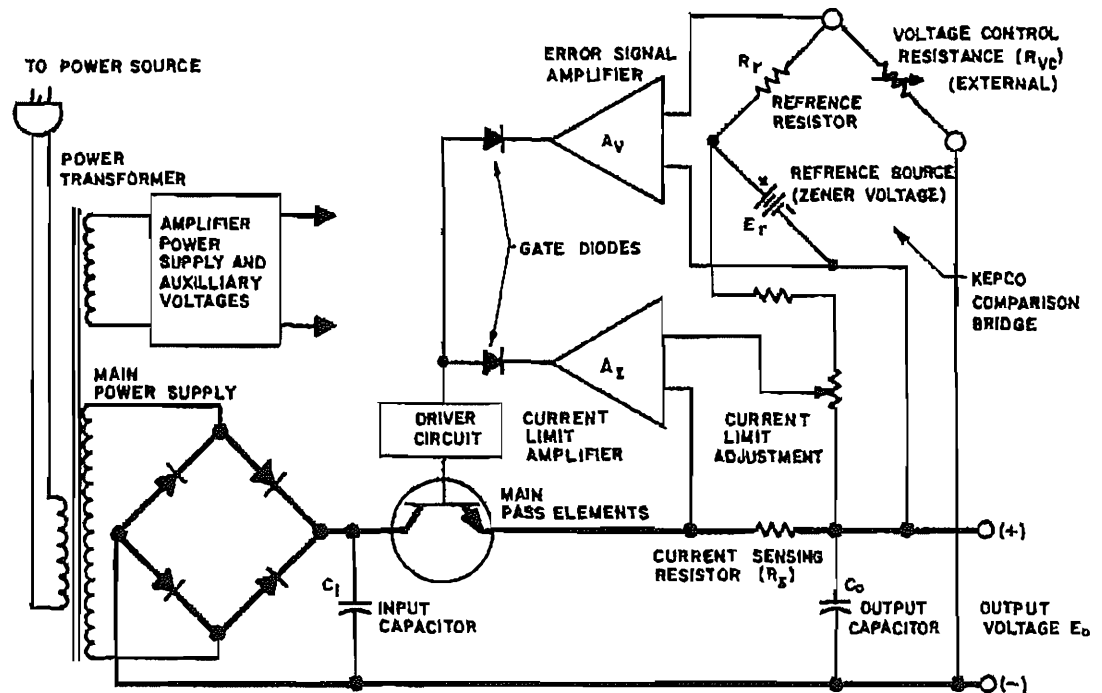

FIG. 4-1 SIMPLIFIED DIAGRAM, PAT POWER SUPPLIES.
(References in CAPITAL LETTERS refer to the nomenclature used in FIG. 4-1.)
4-1 SIMPLIFIED DIAGRAM DISCUSSION. (Refer to FIG. 4-1.)
- a) A-C INPUT CIRCUIT. A-C input power is introduced through rear barrier-strip TB 1, terminals (1) and (2). Terminal (3) is connected to the chassis and should always be returned to a-c ground. The fuse (F 1) protects the primary of the power transformer (T201) from excessive current. T201 has two primary windings which are connected either in parallel (for 115V a-c service) or in series (for 230V a-c service).
- e) **THE COMPARISON BRIDGE.** This 4-arm electrical bridge circuit is the regulating and controlling element in many Kepco Power Supplies. In the PAT models it consists of the reference voltage E_r (CR8), the reference resistor R_r (R15 and the optional bridge current adjustment rheostat R16), the voltage control resistance R_{VC} [either the optional internal control R13 or the resistor externally applied between terminals (11)–(12) on TB1], and the output voltage E_o . As shown in FIG. 4-1, the internal reference voltage E_r in series with the reference resistance R_r is continuously compared with the output voltage E_o in series with the voltage control resistance R_{VC} . At balance ($E_{AA'} = 0$), a constant bridge current I_b flows through the bridge, keeping the error signal at bridge terminals A–A' at approximately zero volts. Any deviation in E_o caused by a-c source, load variations, or other influences will tend to change I_b in the bridge circuit and thereby produce an error signal at the bridge terminals A–A'. This error signal is then amplified by the error signal amplifier A_V and acts as a control signal for the series regulator or pass element changing the voltage drop across it in such a way as to restore the previous output voltage level.